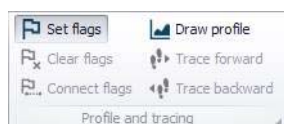

Figure 20.33 The Profile and Tracing toolbox on the Map ribbon
- On the Map View, define path flags via 'Set flags' on the 'Profile and Tracing' toolbox on the Map ribbon (Figure 20.33).